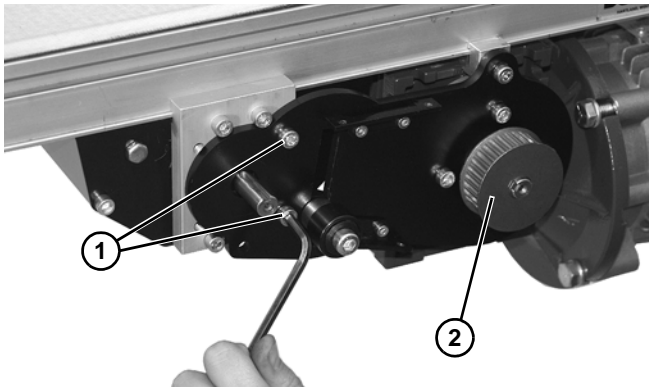

Figure 4
4. Tighten two socket head screws (**Figure 4, item 1**) to 60 in-lb (7 Nm).
5. Install drive pulley (**Figure 4, item 2**) onto gearmotor shaft.